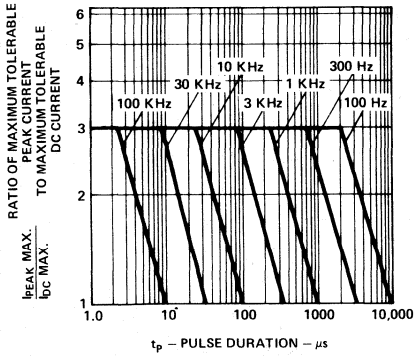

Figure 2. Maximum Tolerable Peak Current vs. Pulse Duration. ( $I_{DC\ MAX}$  as per MAX Ratings.)
1. See Figure 2 to establish pulsed operating conditions.